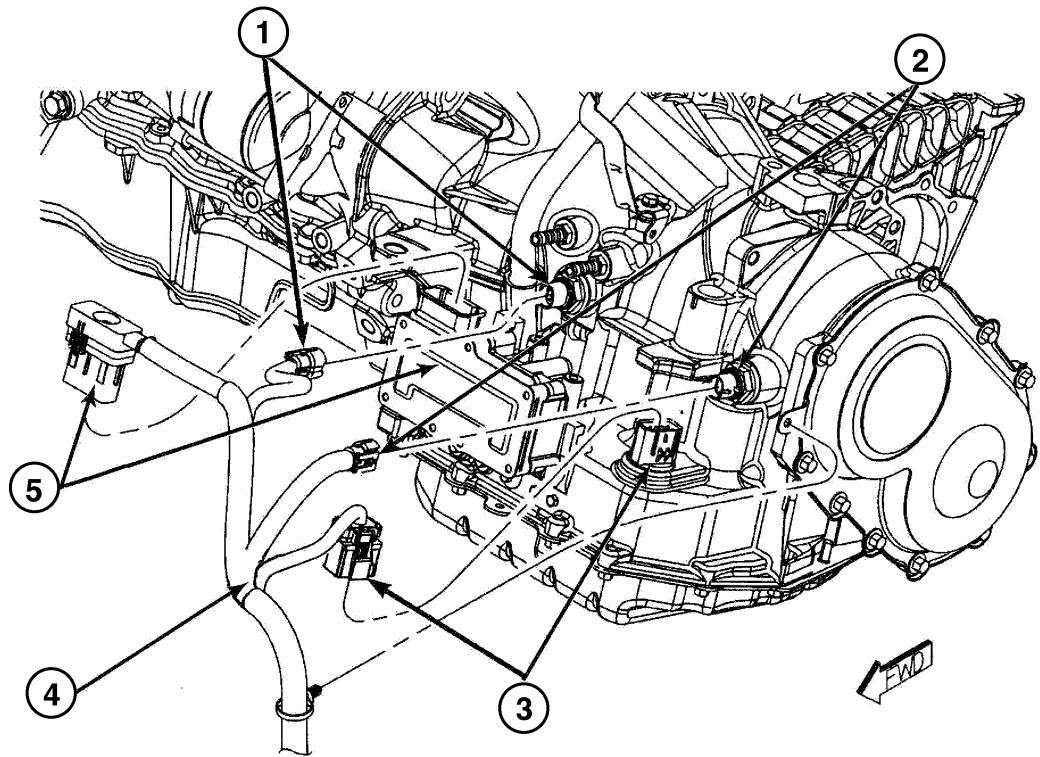

FIGURE 3
3. Disconnect the transaxle solenoid connector (Figure 3).
4. Disconnect the input and output speed sensor (Figure 3).
5. Disconnect the PRNDL switch connector (Figure 3).
8. Connect the PRNDL switch connector (Figure 3).
9. Connect the input and output speed sensor (Figure 3).
10. Connect the transaxle solenoid connector (Figure 3).